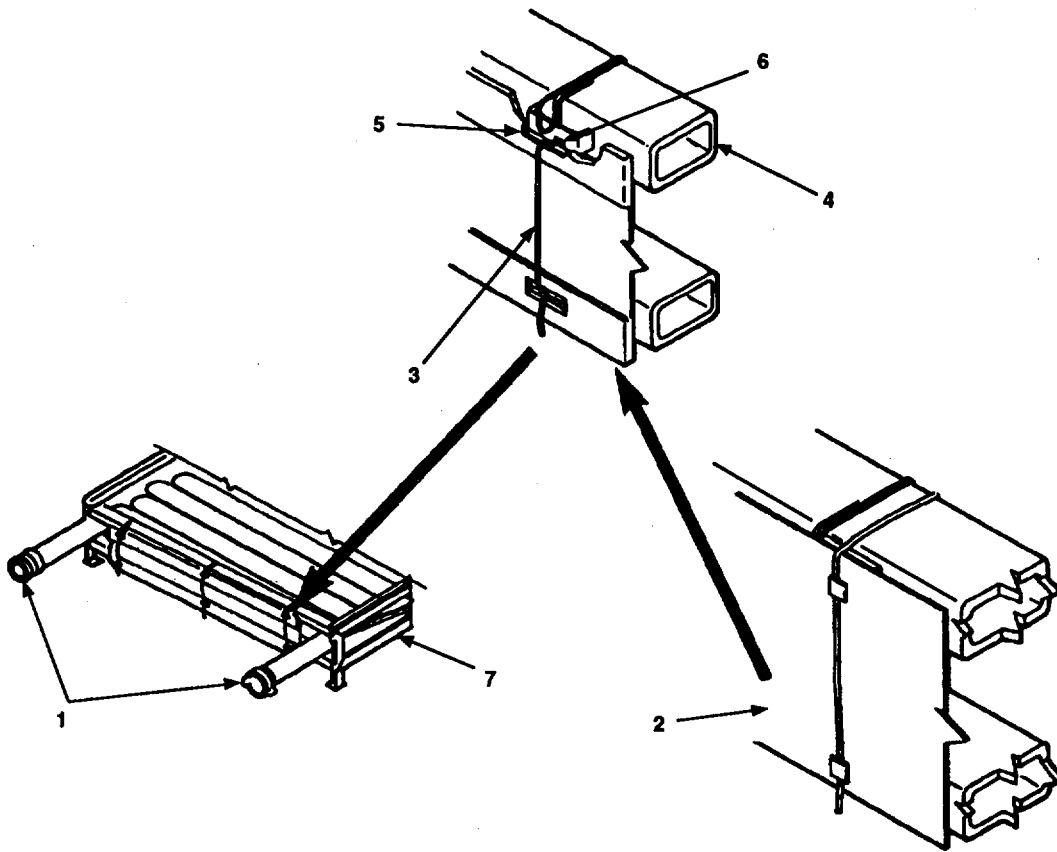

Figure 2-33. Breakaway Installation.
- k. Leave both ends of hose (Figure 2-33, 1) outside openings on either side of breakaway (2).
- l. Locate three lengths of wire (3) provided with breakaway (2).
- m. Wrap end of one wire (3) around tie bar (4) at point where one of cleats (5) is welded to tie bar (4). Wire (3) should not pass over outside of cleat (5).
- n. Loop wire (3) through notch (6) in cleat (5) as shown.
- o. Bring wire (3) over outside of breakaway (2) and back through notch (6) in cleat (5) on bottom of flaking box (7).
- q. Repeat steps 1 through o to attach two remaining lengths of wire (3) to other cleats (5) on tie bar (4) and flaking box (7).